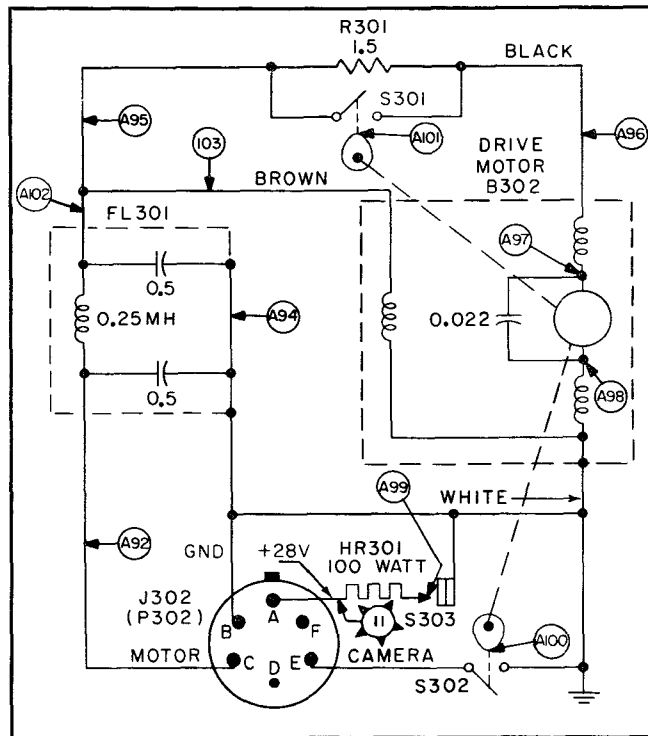

Figure 4-19. Antenna Drive Partial Schematic, Drive Motor Circuitry
- a. Drive motor circuitry (Figure 4-19).
4-98. DRIVE MOTOR CIRCUITRY. (Figure 4-19.)